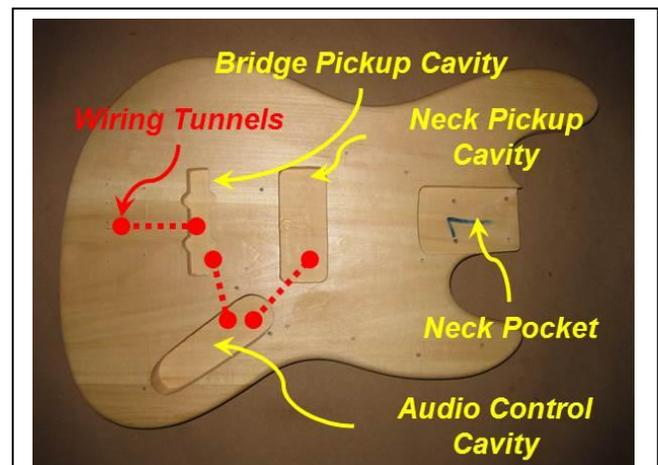

Figure 2.1 Body Locations
1. Check Neck pocket on the Body for pre-drilled (4) mounting holes (Figure 2.1);
1. Ensure that the tunnel for the Bridge ground wire is clear by inserting a small wire into the hole in the center of the top of the Body (reference Fig. 2.1) until it enters the Bridge Cavity.
2. Insert the Bridge (material list item #6) onto the Body (reference Figure 2.1), using the supplies 7 screws.